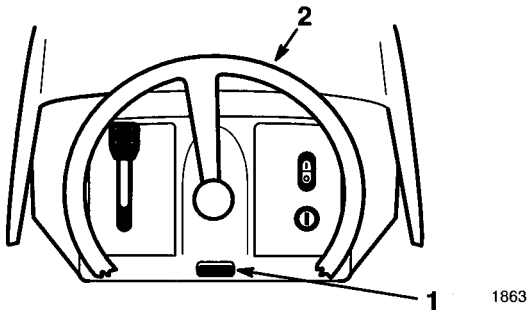

Figure 10
1. Push in on the tilt button (Fig. 10).